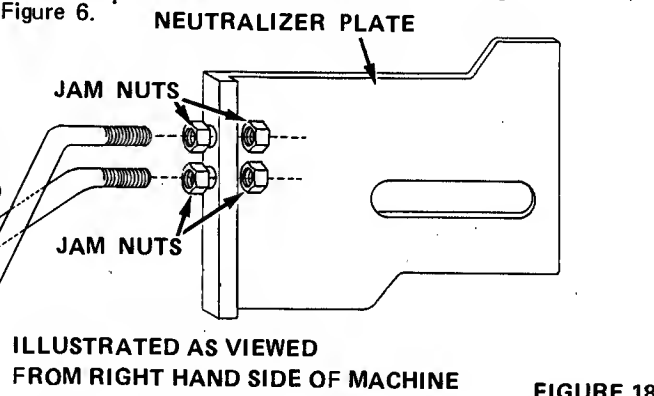
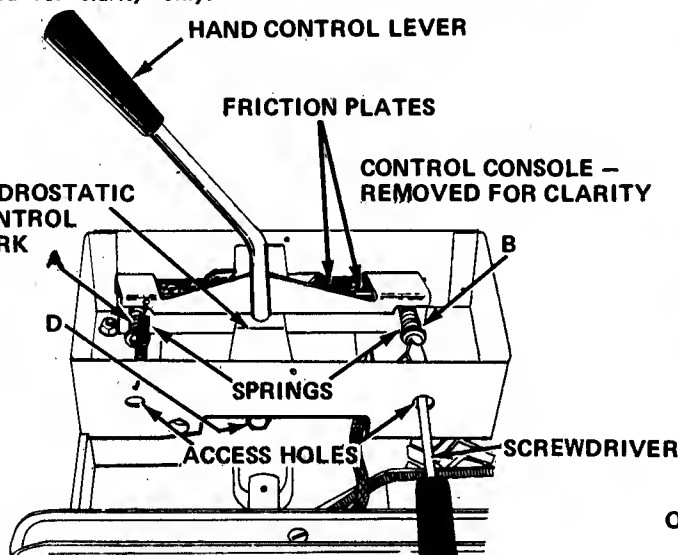

FIGURE 18
FIGURE 19
1. Oil the roller in the cam slotted plate shown in Figure 18 with a few drops of light oil every 25 hours of operation or monthly.
4. Loosen clamp bolt B, Figure 18 a sufficient amount to allow the cam follower to rotate. Turn the eccentric "clockwise" or "counter-clockwise" as required until the rear tractor wheels completely stop. Retighten clamp bolt B.
2. Loosen clamp bolt B, Figure 18 and rotate the eccentric until the flats on the eccentric are parallel to the cam slot as shown in Figure 18. Retighten bolt B. This will assure a maximum fine adjustment range.
3. With the control fork, Figure 19, move the cam, Figure 18, until the cam follower roller is lined up with the cam dwell center mark. **DO NOT** adjust the hydrostatic control fork, Figure 19, if the control lever is not in the neutral slot of the console. This is the final adjustment to be made.
5. Loosen pintle lever clamp bolt A, Figure 18, a sufficient amount to allow the pintle lever to move freely. Move the hydrostatic control lever, Figure 19, in the park-start position, start the engine and run at idle. Return the control lever to the neutral slot in the control console.
Check that the cam follower roller is lined up with cam dwell center mark. Move the pintle arm back and forth until wheels stop turning. Carefully tighten bolt A, Figure 18. The neutral adjustment is extremely sensitive and this procedure is a coarse adjustment. If, when bolt A is tightened, the wheels still move slowly, the fine tuning will be done in step 9.
7. Loosen (4) jam nuts on neutralizing plate, Figure 18, and depress neutralizer pedal completely, Figure 3. The cam follower roller, Figure 18, should remain in line with the cam dwell center mark. Snug (4) jam nuts up against neutralizer plate. Release pedal and securely tighten jam nuts.
8. Check the hydrostatic control lever. If the neutralizer pedal does not automatically shift the control lever to the neutral position from either "forward" or "reverse" when the pedal is fully depressed, loosen hydrostatic control fork adjustment bolt D, Figure 19. Move the fork so that it aligns with the neutral slot in the control console. Securely tighten bolt D.
9. If the wheels still move slowly when neutralized, increase the engine speed to full throttle. Loosen clamp bolt B, Figure 18 and adjust the eccentric roller until the wheels stop completely. Tighten clamp bolt B, Figure 18.
The hydrostatic friction plates, shown in Figure 19, must be adjusted so the control lever moves through the "forward" and "reverse" modes with a minimum of force. However, there must be sufficient spring pressure on the friction plates so that, under normal operating conditions, the control lever will remain at any selected setting.
If the tractor has a tendency to slow down or speed up without touching the control lever, it will be necessary to increase the spring pressure on the friction plates by tightening the screws at A and B, Figure 19. Access to these screws can be gained by raising the rear deck of the tractor and inserting a screw driver through the access holes as shown.
**NOTE:** The control console, see Figure 19, has been removed for clarity only.